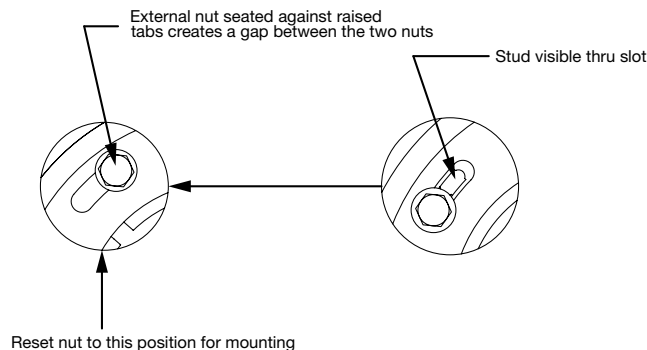

Figure 6 - External nut position for installation
2. Loosen the hex head mounting bolts and position the external nut so that it is seated on top of the raised tabs, which creates the gap between the external and internal nuts. The external nut should be rotated counter clockwise so that the bolts are shouldered against the side of slot as shown in Figure 6. Thread the hex head bolts into the internal nut through each